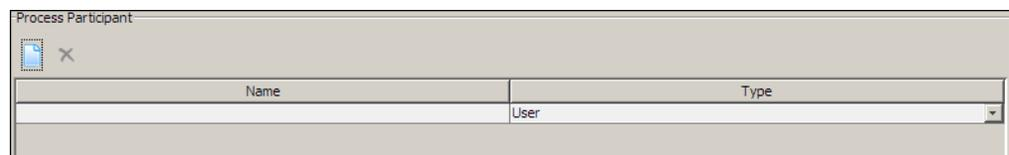

Figure 7.9: Creating Process Participant
3. You can enter details of users who will be executing this process model. Click **Create New Process Participant** . This displays a new user field in Process Participant section (see Figure 7.9).